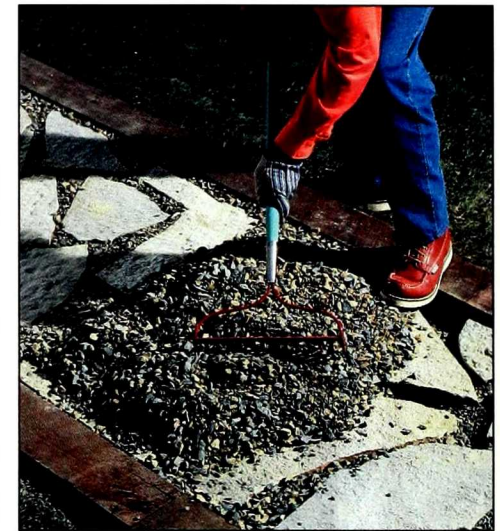

Figure 16: Fill in the space between the flagstones and timbers with a layer of fill rock. Use a metal garden rake to spread ¾-inch rock.
- Place the flagstone on the layer of fill rock as you did the step treads (Figure 15). Since these pieces are random shapes and sizes, you'll do a lot of mixing and moving of pieces before you're ready to spread the final layer of fill rock (Figure 16).